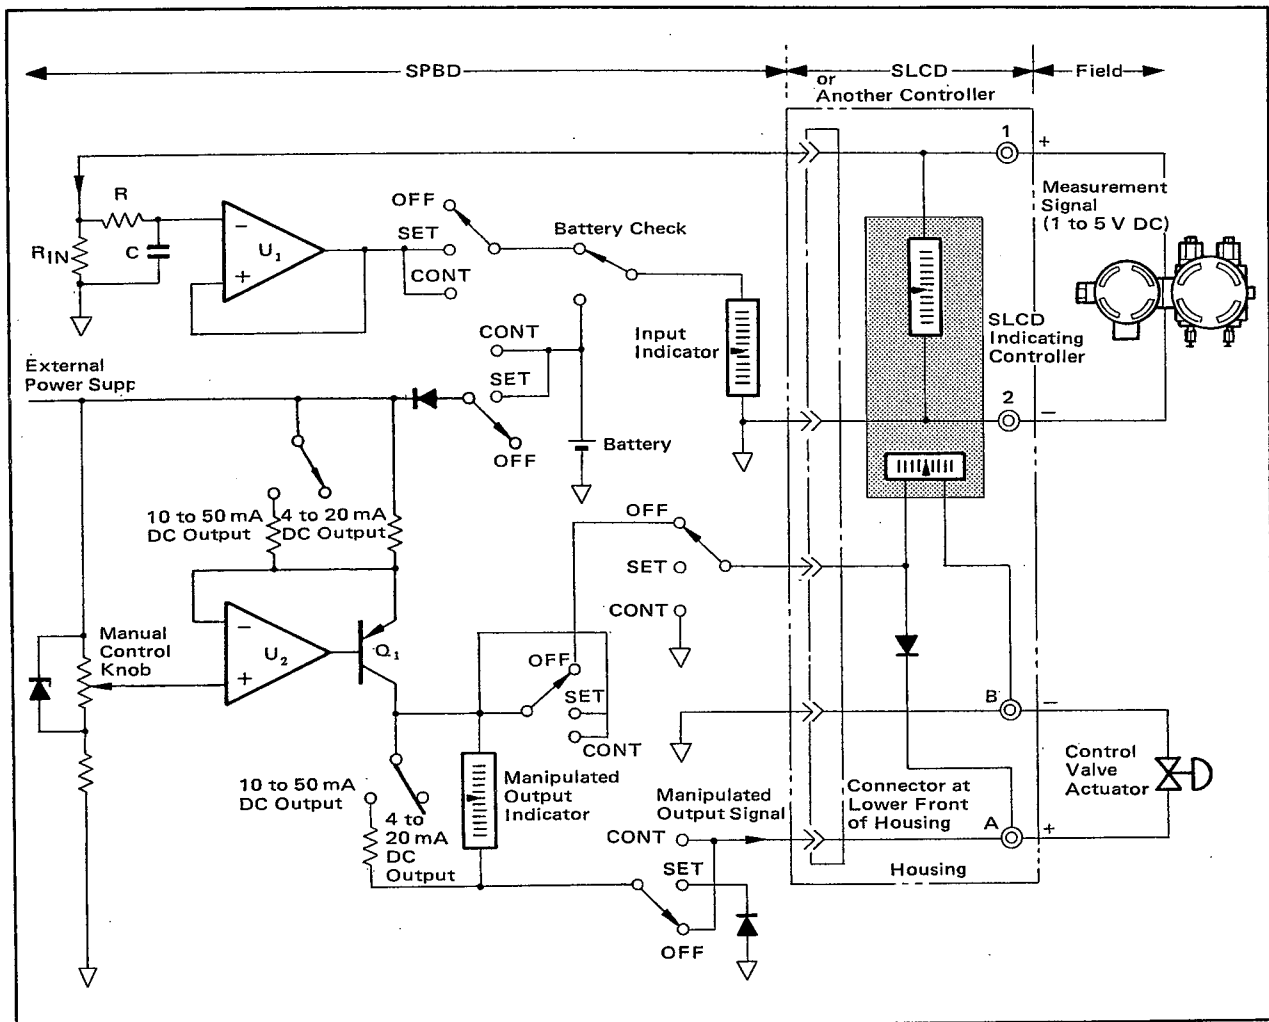

Figure 3-1. Functional Block Diagram of SPBD.
Figure 3-1 shows a functional block diagram of the SPBD. A process variable (input) is fed to the SPBD through the housing connector, from where it passes through a high-input impedance (R_{IN}), an input filter with (R), (C), a buffer amplifier (U_1) and switches, and is then indicated by the input indicator pointer.